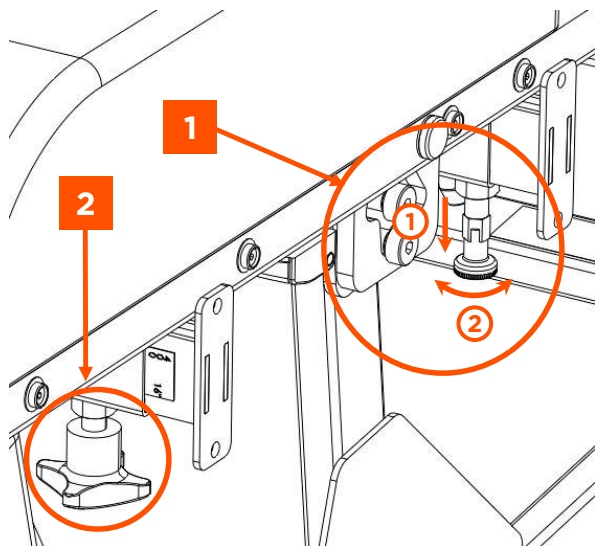

FIGURE 6
1. Remove the chair sidepieces. Pull out the locking plunger (Fig 6, Item 1) located under the seat of the chair on each side and rotate 90 degrees to lock it open. Release the hand screw (Fig 6, Item 2) on each side of the chair. Pull the sidepieces away from the chair.
15. Refit the sidepieces. To fit the sidepieces, pull out the plunger located under the seat on one side of the chair (Fig 6, Item 1) and rotate it through 90 degrees to lock it open.
16. Undo the hand screw (Fig 6, Item 2).
19. Tighten the hand screw to secure the sidepiece (Fig 6, Item 2).